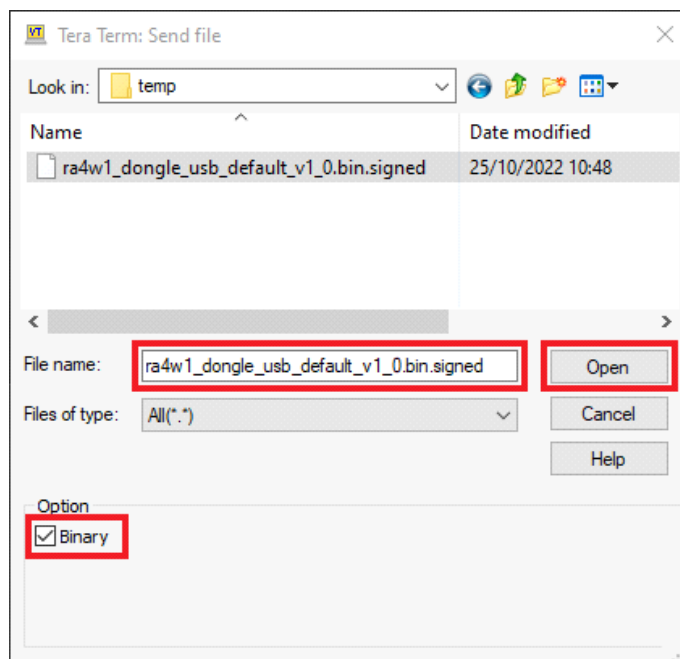

Figure 14. Selection of Software Image
6. Select **File > Send file...** from the menu. On the opened window (Figure 14), select **Binary**, navigate to the location of the software image file, select it, and click the **Open** button. Now the terminal emulator program sends the whole file. LEDs D3 and D4 blink in antiphase, and a pop-up window displays the transfer progress, which takes approximately 10 seconds.